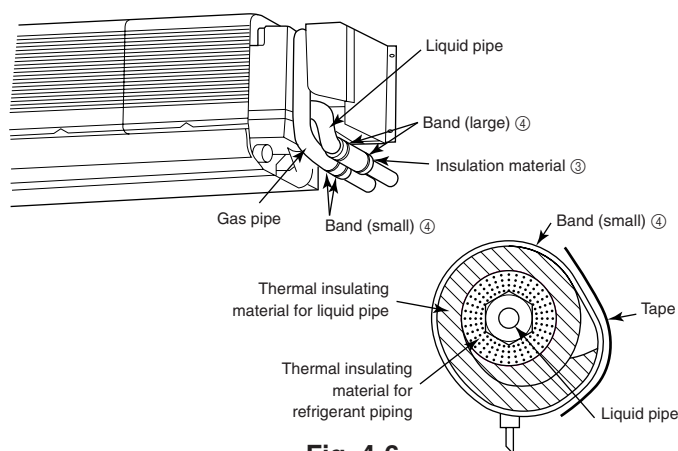

Fig. 4-6
4.4. Refrigerant piping (Fig. 4-6)